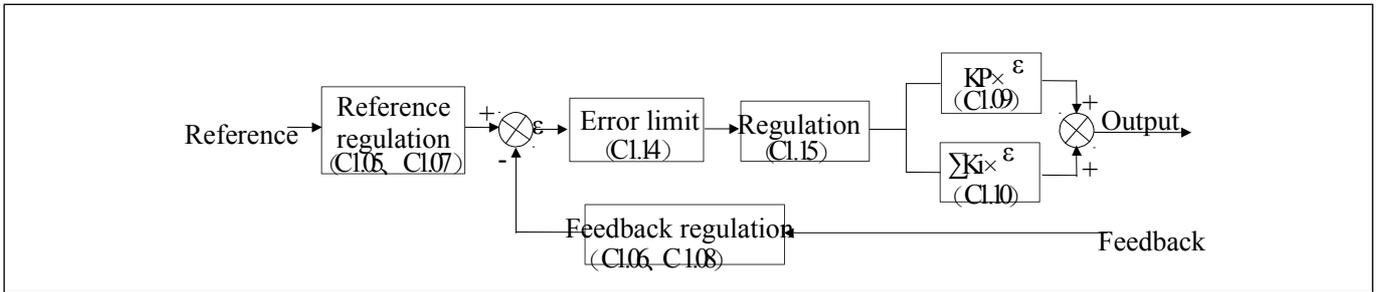
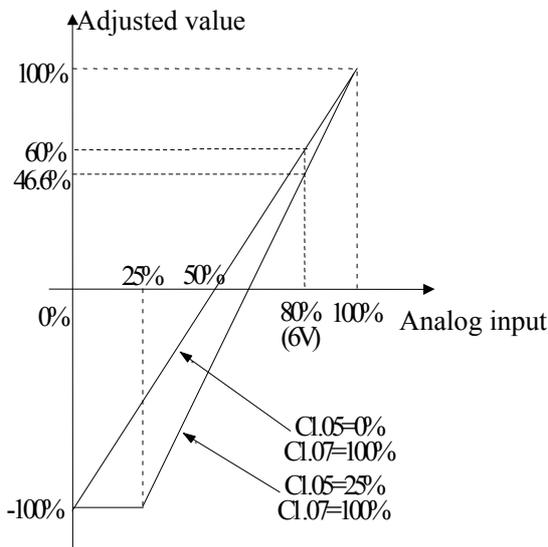

Fig.6-41 Principle diagram of process close-loop control
Fig.6-43 Regulation curve of reference
Operating principles of internal process close-loop of FV100 is shown in the Fig. 6-41
In Fig. 6-41, refer to C1.00~C1.14 for the definitions of close-loop reference, feedback, error limit and proportional and Integral parameters.
The regulation relationship between C1.05,C1.07(in Fig.6-41) and reference is shown in Fig.6-43.When the analog input 6V,if C1.05=0% and C1.07=100%, then adjusted value is 60% .If C1.05 = 25 % and C1.07 = 100%, then the adjusted value is 46.6%.
1. Fig.6-43,0%~100% in X axis is corresponding to analog input -10V~10V,10V of analog input is corresponding to 100%,and -10V is corresponding to 0%,6V is corresponding to 80%.
The regulation relationship between C1.06, C1.08(in Fig.6-41) and feedback is similar to reference regulation.Its adjusted value can be observed in d0.25.